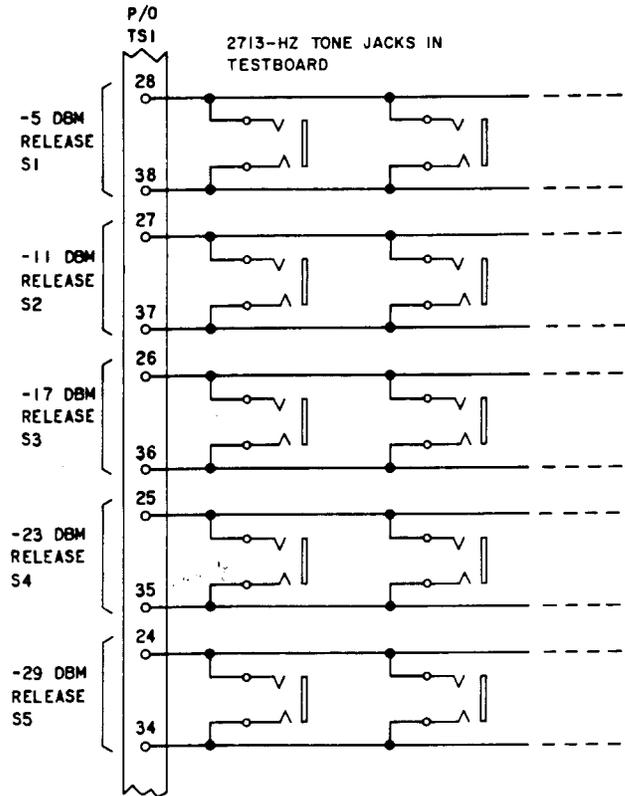

Fig. 4—Connections for Providing -5, -11, -17, -23, and -29 dBm Outputs at 600 Ohms
**2.09** If attenuators are not available, one or more of the -5, -11, -17, -23, and -29 dBm outputs will be needed. These outputs can be provided at a low impedance or at 600 ohms. Figure 4 shows connections for 600-ohm bussing of the